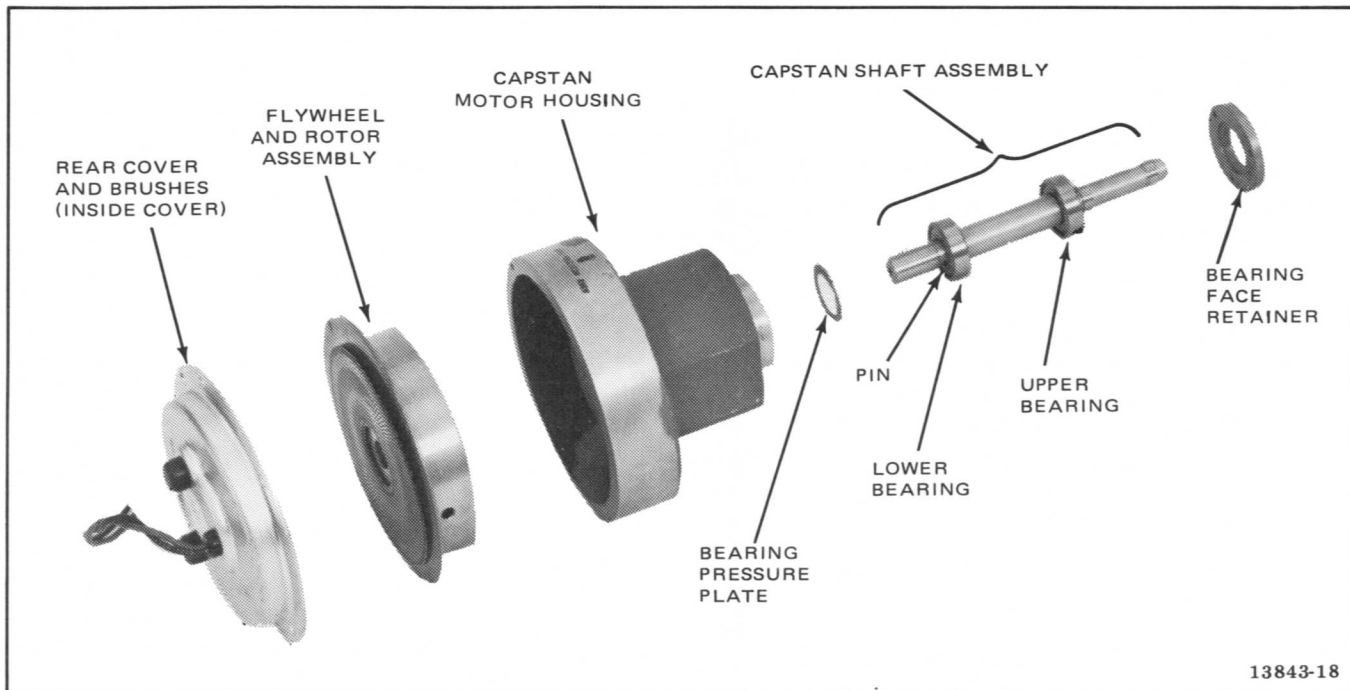

Figure 5-46. Exploded View of Capstan Motor
Besides the complete capstan motor, component parts that can be replaced are the motor brushes, flywheel and rotor assembly, capstan shaft assembly, and capstan motor bearings (Figure 5-46). It is not necessary to remove the complete motor to replace any of these component parts. The brushes are located within the rear cover. Note that the flywheel and rotor are not separable parts and therefore must be replaced as a unit.
- 5-96. *Flywheel and Rotor.* Use the following procedure to replace the flywheel and rotor assembly (Figure 5-46).
2. Remove the two hex-socket plate screws (Figure 5-49) that secure the 1/16-inch thick plate to the capstan housing (Figure 5-46).
7. Check that the bearing pressure plate shown in Figure 5-46 (looks like a large washer) is either resting on the springs or is held by grease film to the lower bearing on the capstan shaft assembly.
2. Prior to removing the lower bearing (Figure 5-46), remove the 0.062 flywheel drive pin from the capstan shaft.
6. If the lower bearing (Figure 5-46) was replaced, reinstall the 0.062 pin removed in step 2. Use an adhesive such as Loctite to secure pin. Be sure pin is fully bottomed in hole drilled in side of shaft.